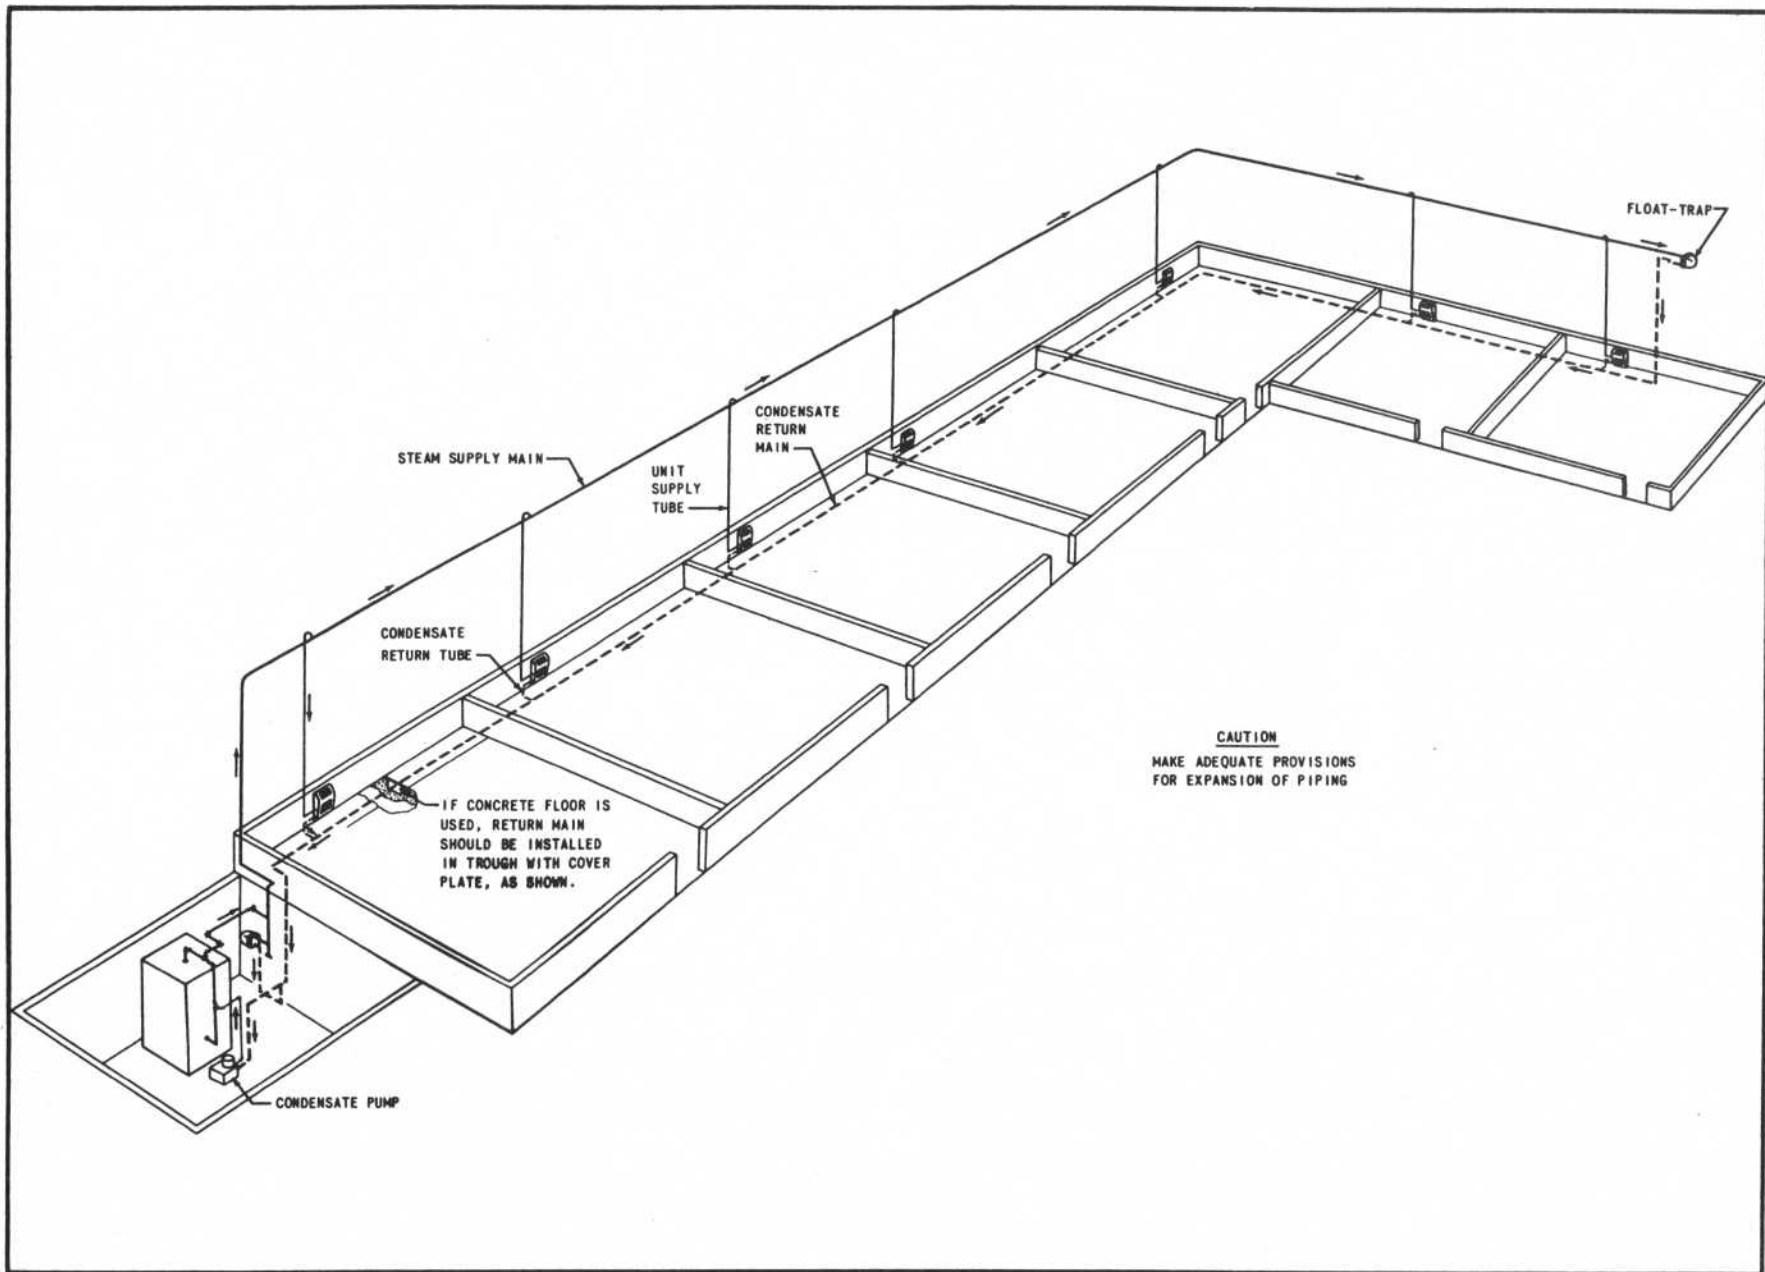

Figure 5 - Perimeter Main System - Down-Feed to Units With Tubing Take-Offs
- c. PERIMETER MAIN, DOWN-FEED TO UNITS (Figure 5 and 6.) This system may be used in single story construction where a main under the first floor is not practical or in multi-story construction where the use of a number of large vertical risers would result in high material cost. With this system one large riser would be piped from the boiler to the level of the horizontal main with smaller down-feed supply lines, either pipe or tubing, from the main to the units.